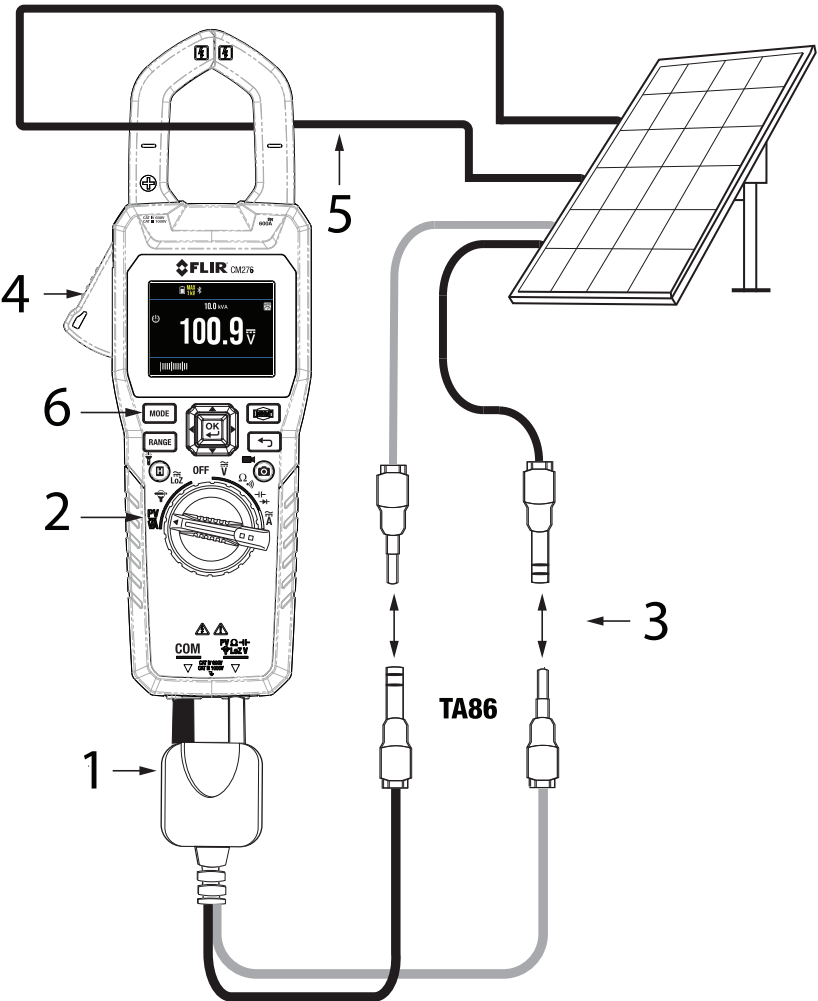

Figure 8.13 Photovoltaic Power Measurement Setup. Refer to the previous paragraph for the numbered references in this figure.
Refer to Figure 8.13, below, for the numbered items in this section. To obtain dedicated photovoltaic plugs (TA86) and/or PV test leads (TA85), contact your FLIR point of purchase.
3. Connect the test lead probes or plugs to the solar panel. In Figure 8.13, below, the industry standard TA86 MC4 plugs are shown, these mate directly with most solar panel connectors, and are rated for 1.5 kV DC. Alternatively, you can use the TA85 test lead style PV probes, these are also rated for 1.5 kVA.